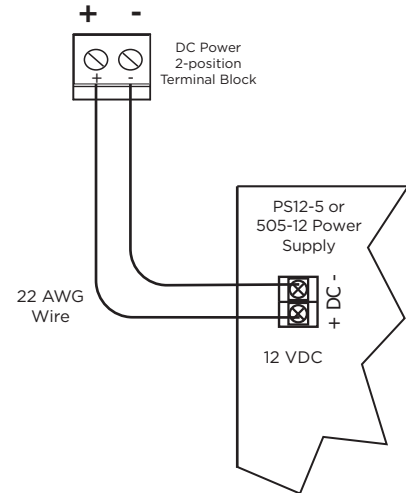

Figure 3: Power Supply Connection
2. Observe positive and negative polarity on all connections. See Figure 3.